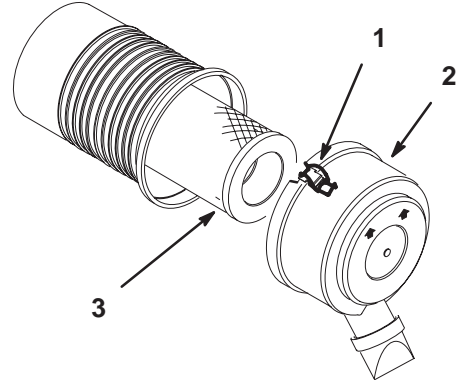

Figure 39
4. Clean around the air cleaner to prevent dirt from getting into the engine and causing damage. Loosen the retaining clips and remove the air cleaner cover (Fig. 39).
5. Carefully remove the filter from the compartment (Fig. 39).
1. Carefully slide the element into the compartment (Fig. 39).
2. Place the air cleaner cover into the compartment and latch the retaining clips (Fig. 39).